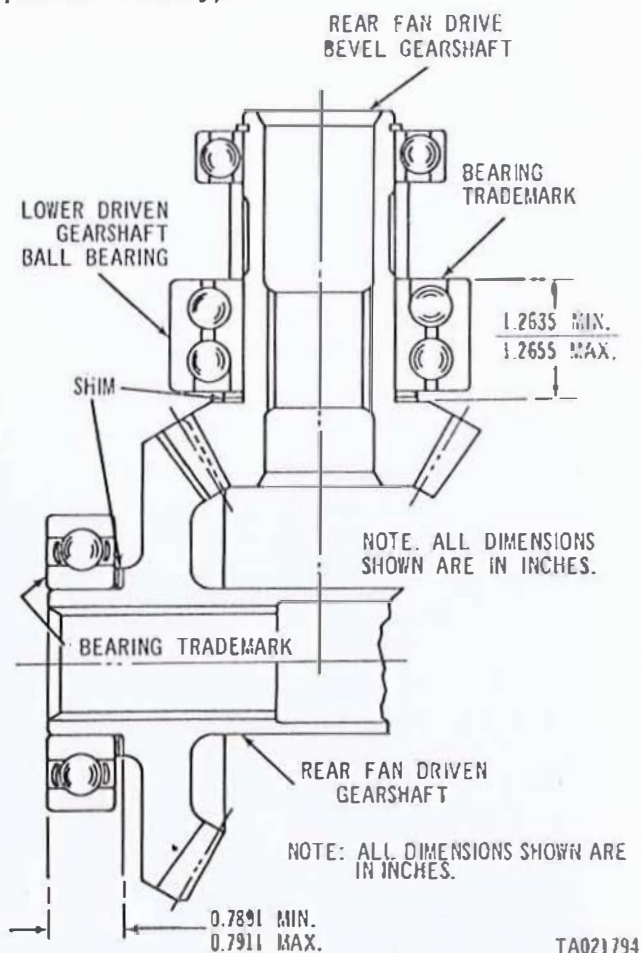

Figure 3-253. Determining shim thickness for rear fan driven bevel gearshaft and rear fan drive gearshaft.
(2) Position original shims (9) on end of inner bearing race (side opposite bearing trade mark) of rear fan drive bevel gearshaft ball bearing (10). Measure total thickness of bearing race and shim, from shim on inner race to face of outer race, with end play removed. Thickness should be from 0.7891 inch minimum to 0.7911 inch maximum (fig. 3-253). When total thickness is more than 0.7911 inch, strip 0.002 inch thick lamination from the shim pack until the correct thickness is
(3) Position shim (9, fig. 3-230) of predetermined thickness (fig. 3-253) over bearing hub of rear fan drive bevel gearshaft (8, fig. 3-230) and press rear fan drive bevel gearshaft ball bearing (10) on gearshaft. Install bearing support (11) on ball bearing and install assembled fan drive bevel gearshaft on injection pump advance assembly.
(8) Position original shims (43, fig. 3-231) on end of inner bearing (side opposite bearing trade mark) of lower driven gearshaft ball bearing (13). Measure the total thickness of bearing race and shim, from shim on inner race to upper face of outer race with end play removed. Thickness should be from 1.2635 inch minimum to 1.2655 maximum. When total thickness is greater than 1.2655 inch, strip 0.002 inch thick laminations from the shim pack until the correct thickness is obtained. When total thickness is less than 1.2635 inch add 0.002 inch thick shims (stripped from a new shim pack) as necessary. Figure 3-253 illustrates shim location and measuring points.